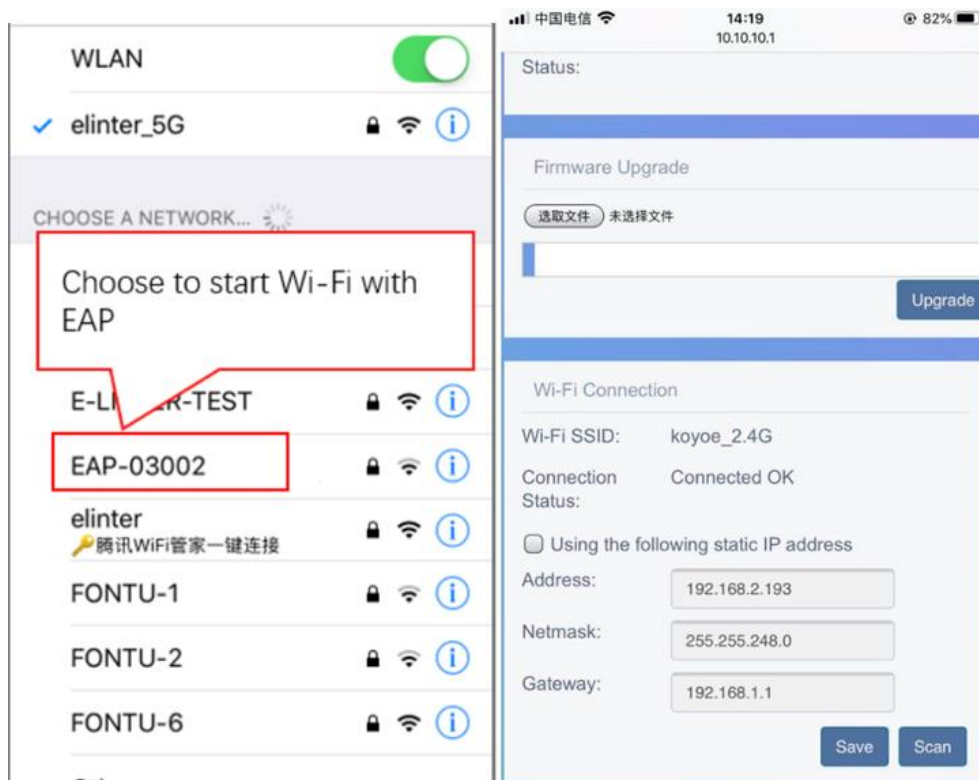

Figure 11-3
- 1) Turn on the mobile wifi, select the WiFi module hotspot, and enter the password: 12345678(starts with EAFI module).Open the mobile browser and enter 10.10.10.1 to enter the WiFi module configuration page.The method is shown in Fig11-3.